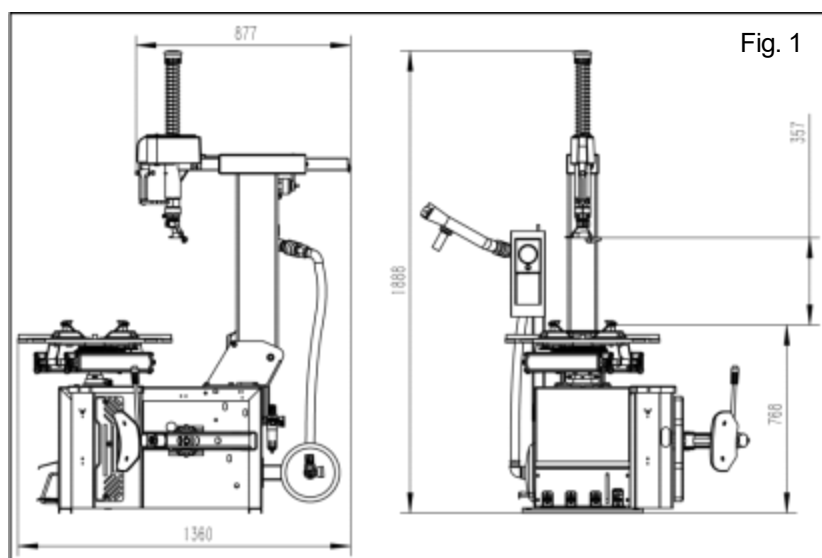
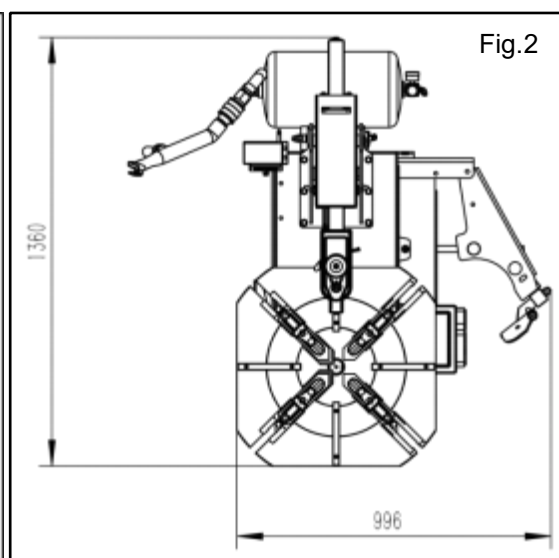

Fig. 1
Fig.2
- The area should provide the operator with enough space to use the equipment in a safe manner. (See Fig. 1, Fig.2)